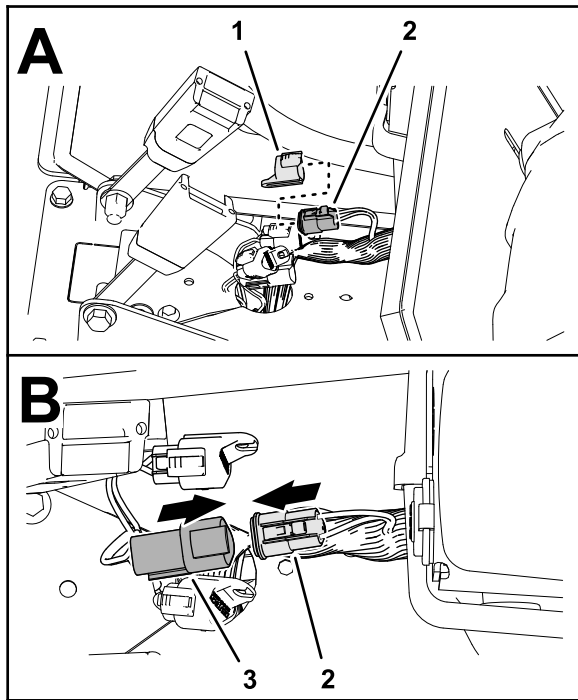

Figure 37
1. Remove the cap from the 3-socket connector of the machine wire harness (labeled CAN DIAGNOSTICS INTERCONNECT), as shown in Figure 37.
2. Plug the 3-pin connector of the ISO-CAN bus harness (labeled TO TORO CANBUS) into the 3-socket connector of the machine wire harness (labeled CAN DIAGNOSTICS INTERCONNECT), as shown in Figure 37.